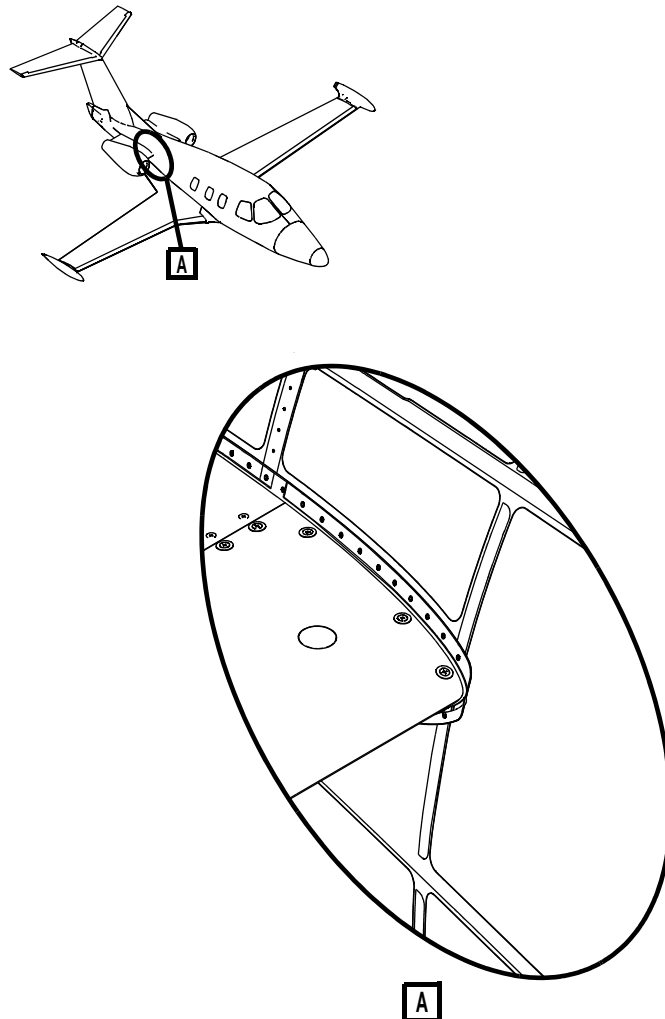

Figure 1. Area of Inspection
- (1) Inspect the area where the Frame, Pylon, Aft Fuselage, RH (p/n 53-114187) attaches to the aft fuselage for damaged rivets. Refer to Figure 1, Figure 2, and Figure 3.